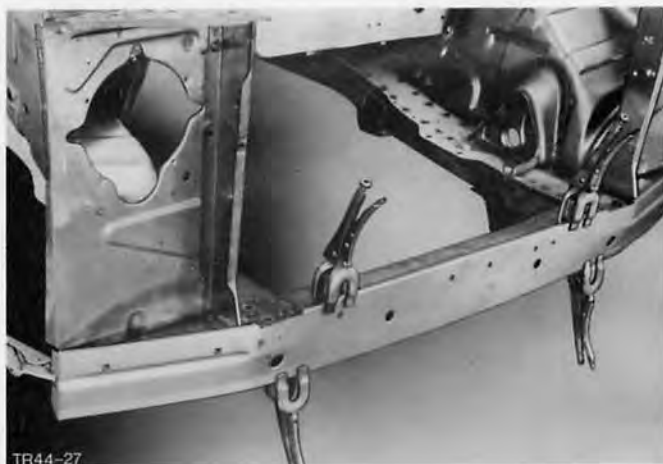

Fig.38. Fix new body front lower panel on crossmember with clamps.
13. Position new panel and fix with clamps, Fig. 38.